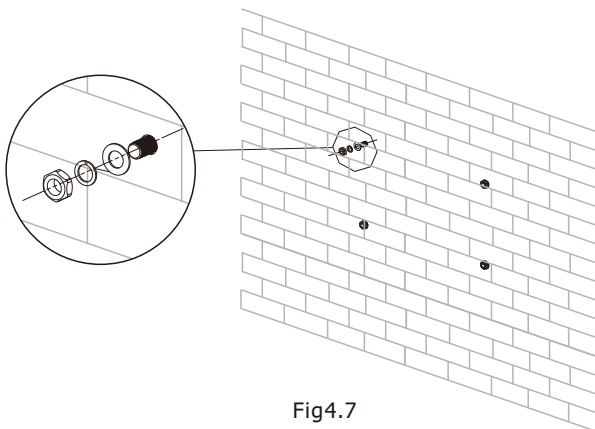

Fig4.7
- Fix the mounting expansion bolt on the wall as the figures shown below. combine four expansion bolt with four M6 Nuts. Refer to Fig4.7